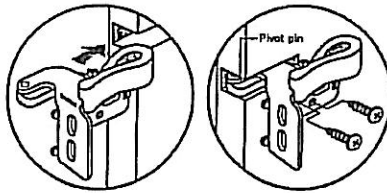

Figure 7. Seating the hinge in the door.
- Slide the lower section of the hinge into the door notch (see Figure 7). When the hinge is properly seated in place, the edge of the pivot pin will be flush with the edge of the door. Using two of the hinge mounting screws, secure the hinge to the door. Follow the same steps to attach the second hinge.